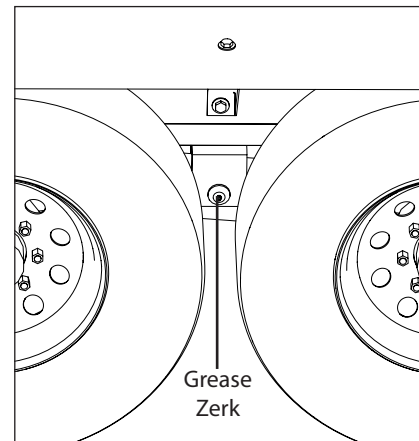

Figure 2: Grease Location on Axle
- Grease fittings on axle equalize bolts (Figure 2).
2. Drain any remaining water from the unit's plumbing system by opening the suction line valve (Figure 2). Then remove the drain cap from the suction filter and capture all fluid in a container. When system is drained, ensure that the rubber gasket is in place and replace drain cap onto suction filter. Dispose of liquid according to the chemical manufacturer's recommendations.